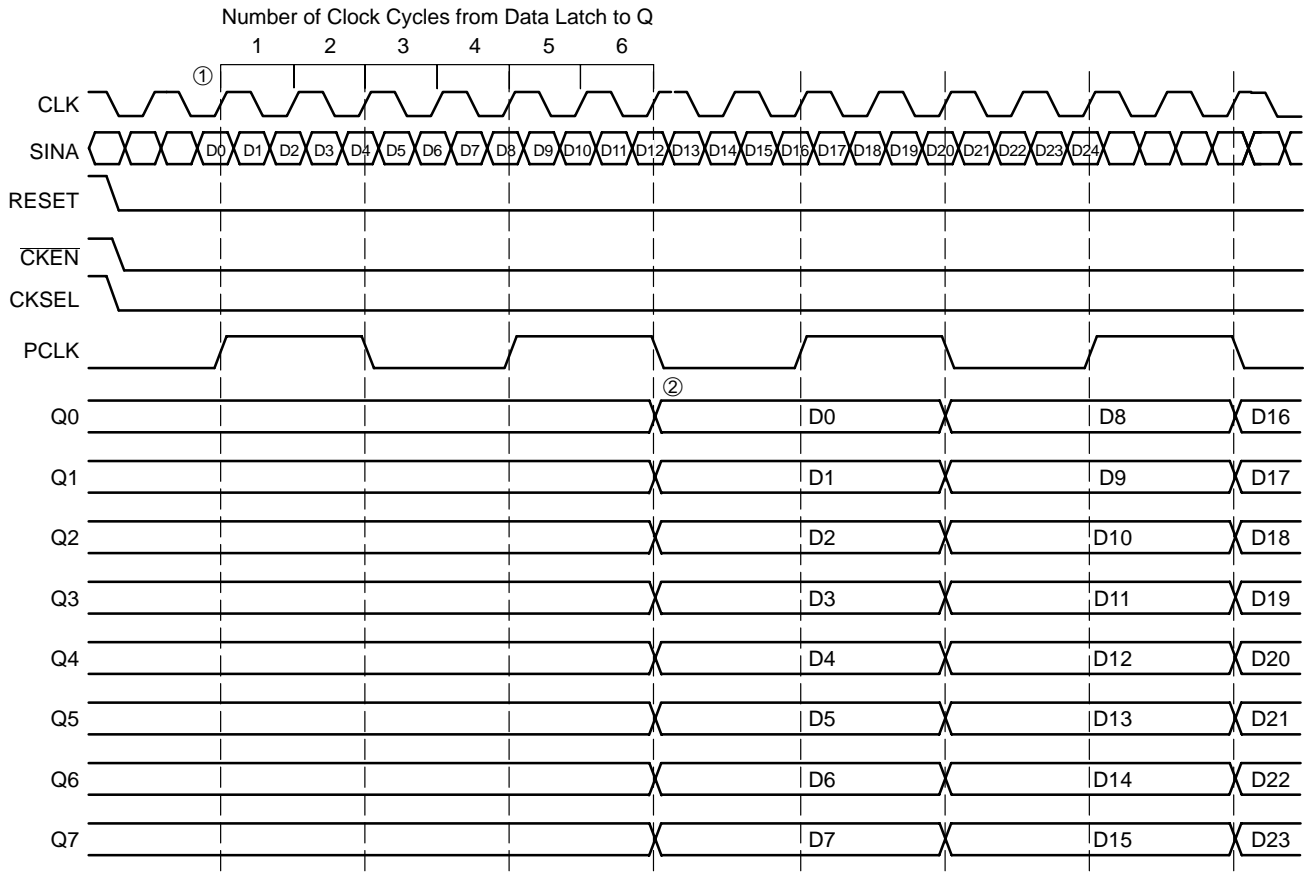

Figure 7. Timing Diagram A. 1:8 Serial to Parallel Conversion with CKSEL LOW
falling edge of the clock and the time from when the serial data is latched① to when the data is seen on the parallel output② is 6 clock cycles (see Figure 7).